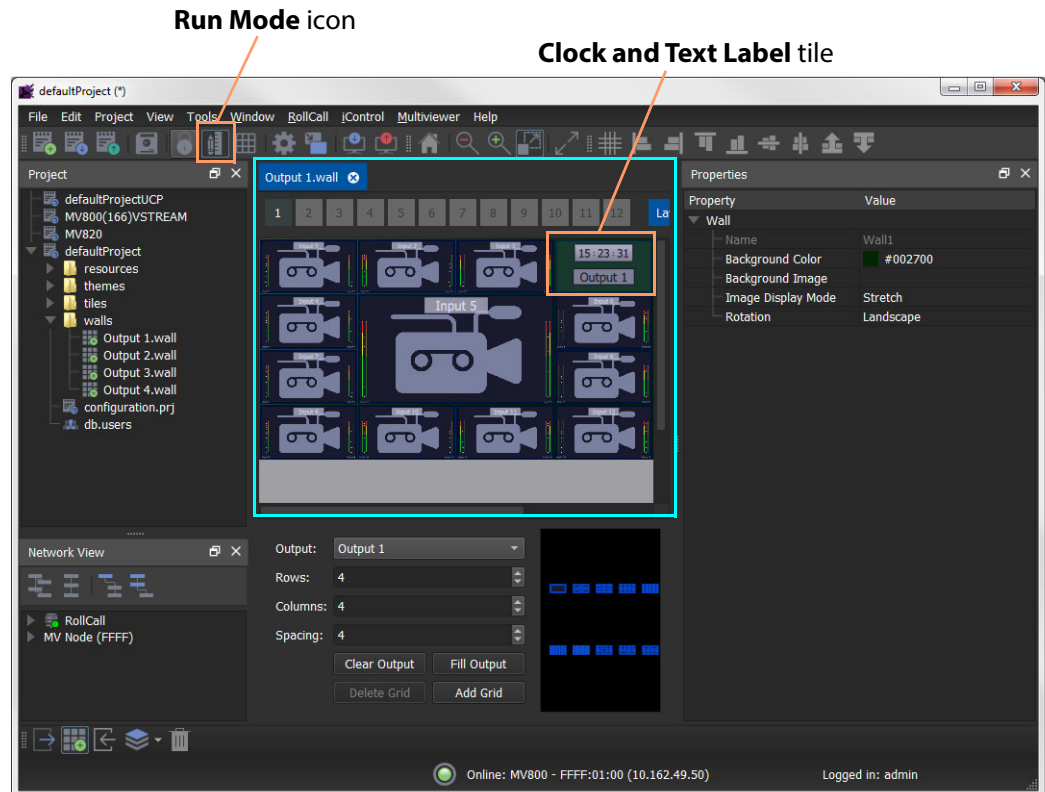

Fig. 8-18: Wall Editor in Design Mode
- 1 Click the large **Walls** icon and select a wall item in the list, for example, 'Output 1'. See Figure 8-18.
Orbit enters **Design Mode**. See Figure 8-18.